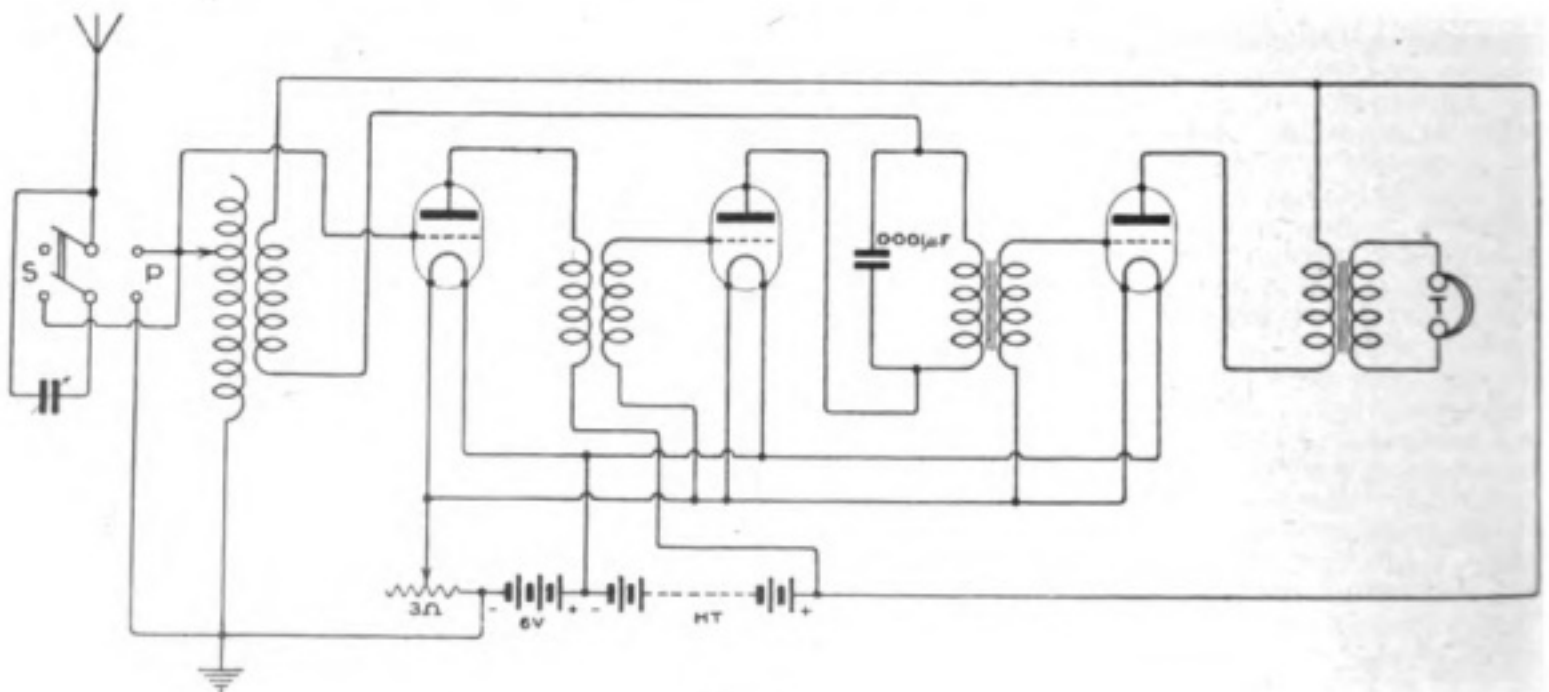

Fig. 3.
(1) Yes. (2) 0.005 mfd. Do not connect as shown, but in series in the aerial circuit, or in parallel across the inductance. See circuit, Fig. 3, page 60, April 8th issue. (3) 750 ohms, but do not use battery and potentiometer with a perikon detector. (4) 4,000 ohms.
(1) Inductance of A.T.I. 4,750 mhys. and reaction 7,000 mhys. This will tune a P.M.G. aerial to 2,000 metres, or 3,400 metres with a 0.0005 mfd. parallel condenser. (2) Yes. Wavelength is 1,050 metres approx. (3) For short wavelengths 300/1,000 metres. No. 22 or No. 24 wire should be used. (4) A suitable three-valve diagram is given in Fig. 3.